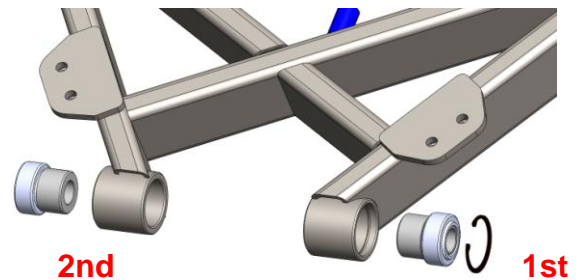

Figure 2
- First, press in bearing/spacer into the left side bearing cup of the swing arm until bottoming on shoulder. Then install supplied retaining ring. Figure 2
- Then press in second bearing/spacer until a distance of 5.35" is reached between the ends of each spacer. (Note: This bearing is designed to slide into position within the bearing cup when tightening the swing arm pivot bolt.) Figure 2